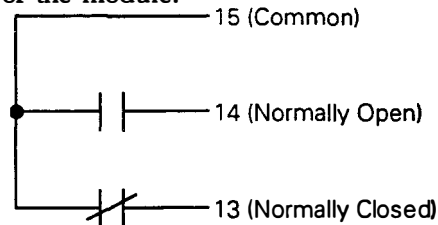

Figure 12. Bell Alarm-Alarm Only connections on the right terminal block. The contacts are shown in the reset state.
The Bell Alarm-Alarm Only provides normally open (NO) and normally closed (NC) outputs available at the terminal block on the right side of the breaker, as illustrated in Figure 12. The outputs change state whenever a breaker trip occurs. This trip can be caused by an overcurrent condition detected by the Trip Unit. This trip can also be generated by the Shunt Trip or Undervoltage Release, if installed with a MicroVersaTrip Plus or MicroVersaTrip PM Trip Unit, and if the appropriate DIP switches have been set on the back of the Trip Unit (see Section 3-8, *Accessory Configuration at the Trip Unit*).